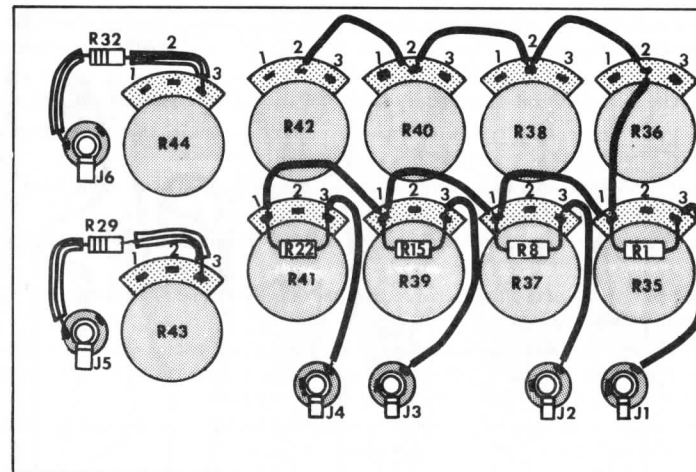

Figure 4
- ( ) Mount 500K potentiometer R35 in the position shown in figure 4. Use two 3/8 inch nuts, one behind the front panel as a spacer and the second on the front side of the panel to secure the potentiometer. Adjust the rear nut so that none of the threaded shaft of the control is exposed when the front nut is tightened down. This will allow the control knob which will be mounted in a later step to seat as closely as possible to the panel. Orient as illustrated in figure 4.
- ( ) Mount the miniature phone jack J1 in the position shown in figure 4. Fasten in place with the nut provided. Orient as illustrated.
- ( ) Using a 1-1/2 inch length of insulated wire make the connection between lug #2 of R40 and lug #2 of R38 as shown in figure 4. Do not solder either connection at this time.
- ( ) Install the previously prepared resistors between lugs #1 and #3 of potentiometers R35, R37, R39 and R41 as shown in figure 4. Do not solder any of these connections.
- ( ) Using a 2 inch length of insulated wire make the connection between the "Hot" terminal of J1 and lug #3 of R35 as shown in figure 4. Solder both connections.